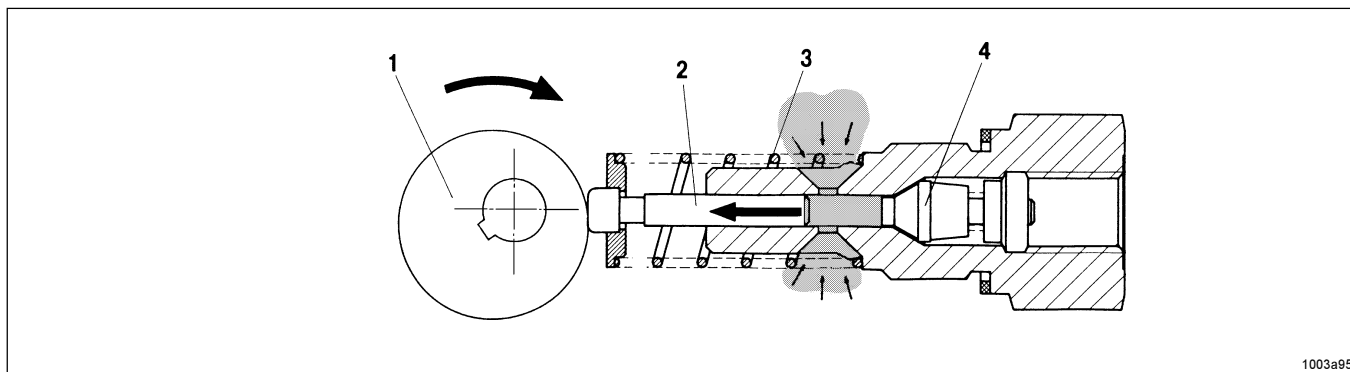
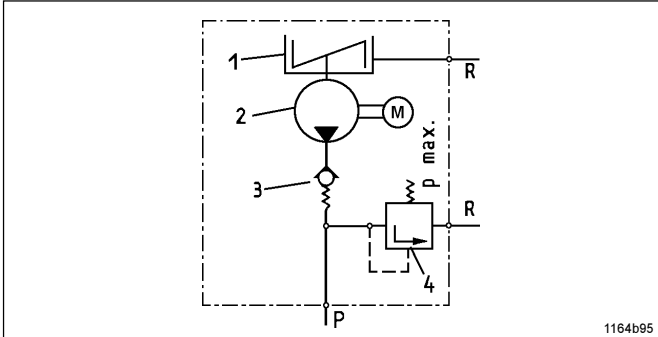

Fig. 5 - The pump element sucks in lubricant
Fig. 7 - Hydraulic diagram of the pump
- The electric motor drives the eccentric 1 (Fig. 5, 6).
- piston 2 sucks in lubricant from the reservoir. Refer to Fig. 5.
- The check valve 3, fig. 7 or 4 fig.5 and 6: